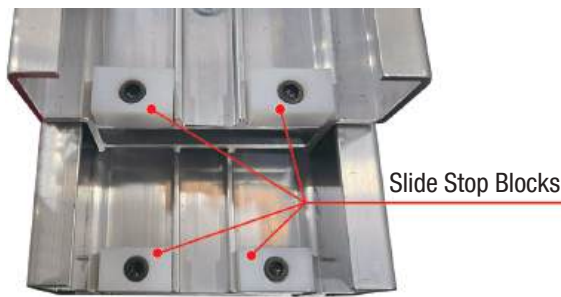

Figure 4-19: Slide Stop Blocks
27. Slide the carriage section up to expose the bottom of the front mast assembly. Using 3/8" hex wrench and 9/16" wrench, re-install the two slide stop blocks (removed in step 10, see Figure 4-19) to the bottom of the front mast assembly. Do not overtighten the bolts and nuts as this may deform the slide stop block and cause unnecessary friction. Torque to 10 ft-lbs.